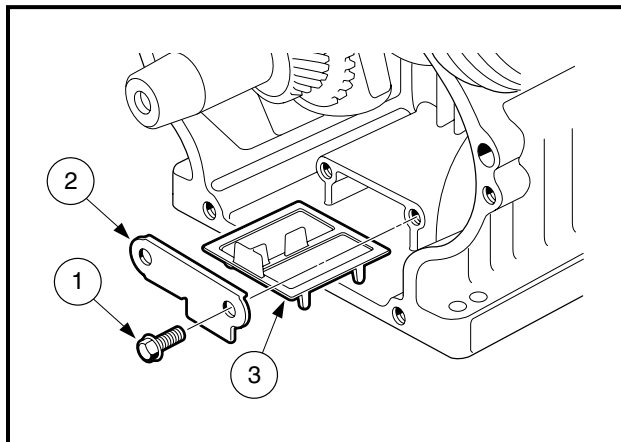

Figure 3-81 Oil Screen Removal
1. Remove the two bolts (1) to take out the oil screen plate (2) and the oil screen (3) (**Figure 3-81, Page 3-38**).